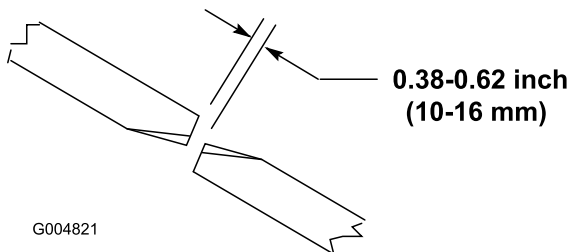

Figure 24
To ensure proper operation of the mower deck, there must be a 10 to 16 mm (0.38 to 0.62 inch) clearance between the tips of the side and center mower-deck blades (Figure 24).
2. Rotate a center and adjoining side blade so the blade tips are aligned. Measure the distance between the blade tips (Figure 24).